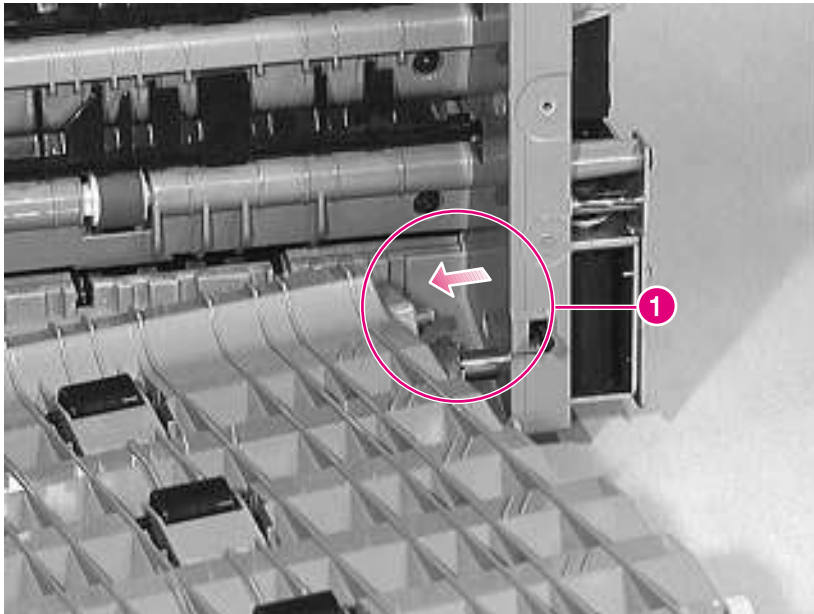

Figure 6-130 Right Door Assembly (Paper Path Cover) (5 of 5)
- 3** Release the plastic pin on the right end, and remove the paper path cover as shown in figure 6-130 (callout 1).